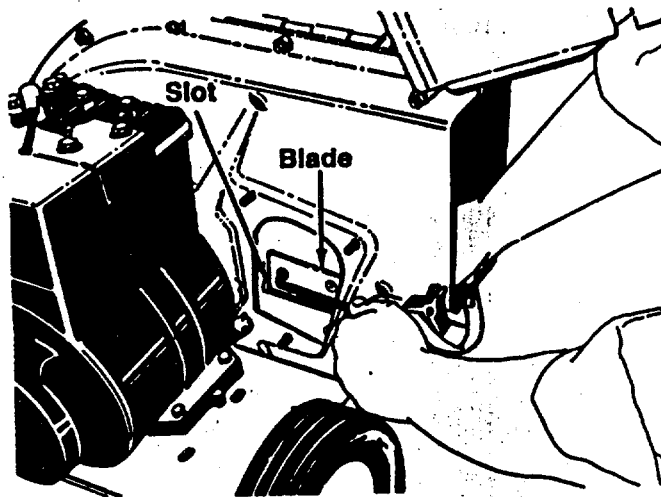

Fig. 1
5. Rotate the impeller assembly by hand until you locate one of the chipper blades in the chipper chute opening. Remove the blade, using a 3/16" allen wrench on the outside of the blade and 1/2" wrench on the impeller assembly (inside the housing). See figure 1.